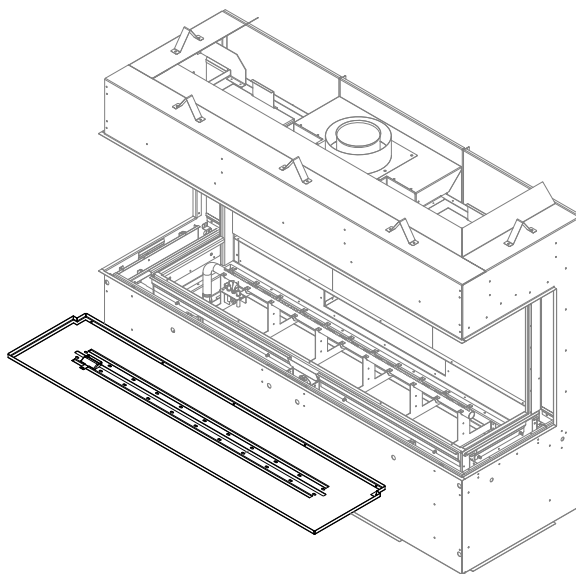

Figure 4.19 - Remove Burner Assembly
5. Remove all the sheet metal screws around the perimeter of the media tray and all sheet metal screws along the center of the burner. Remove the firebox media tray and burner tube. Figure 4.19.
6. Remove the (24) sheet metal screws securing the control board to the bottom of the firebox.